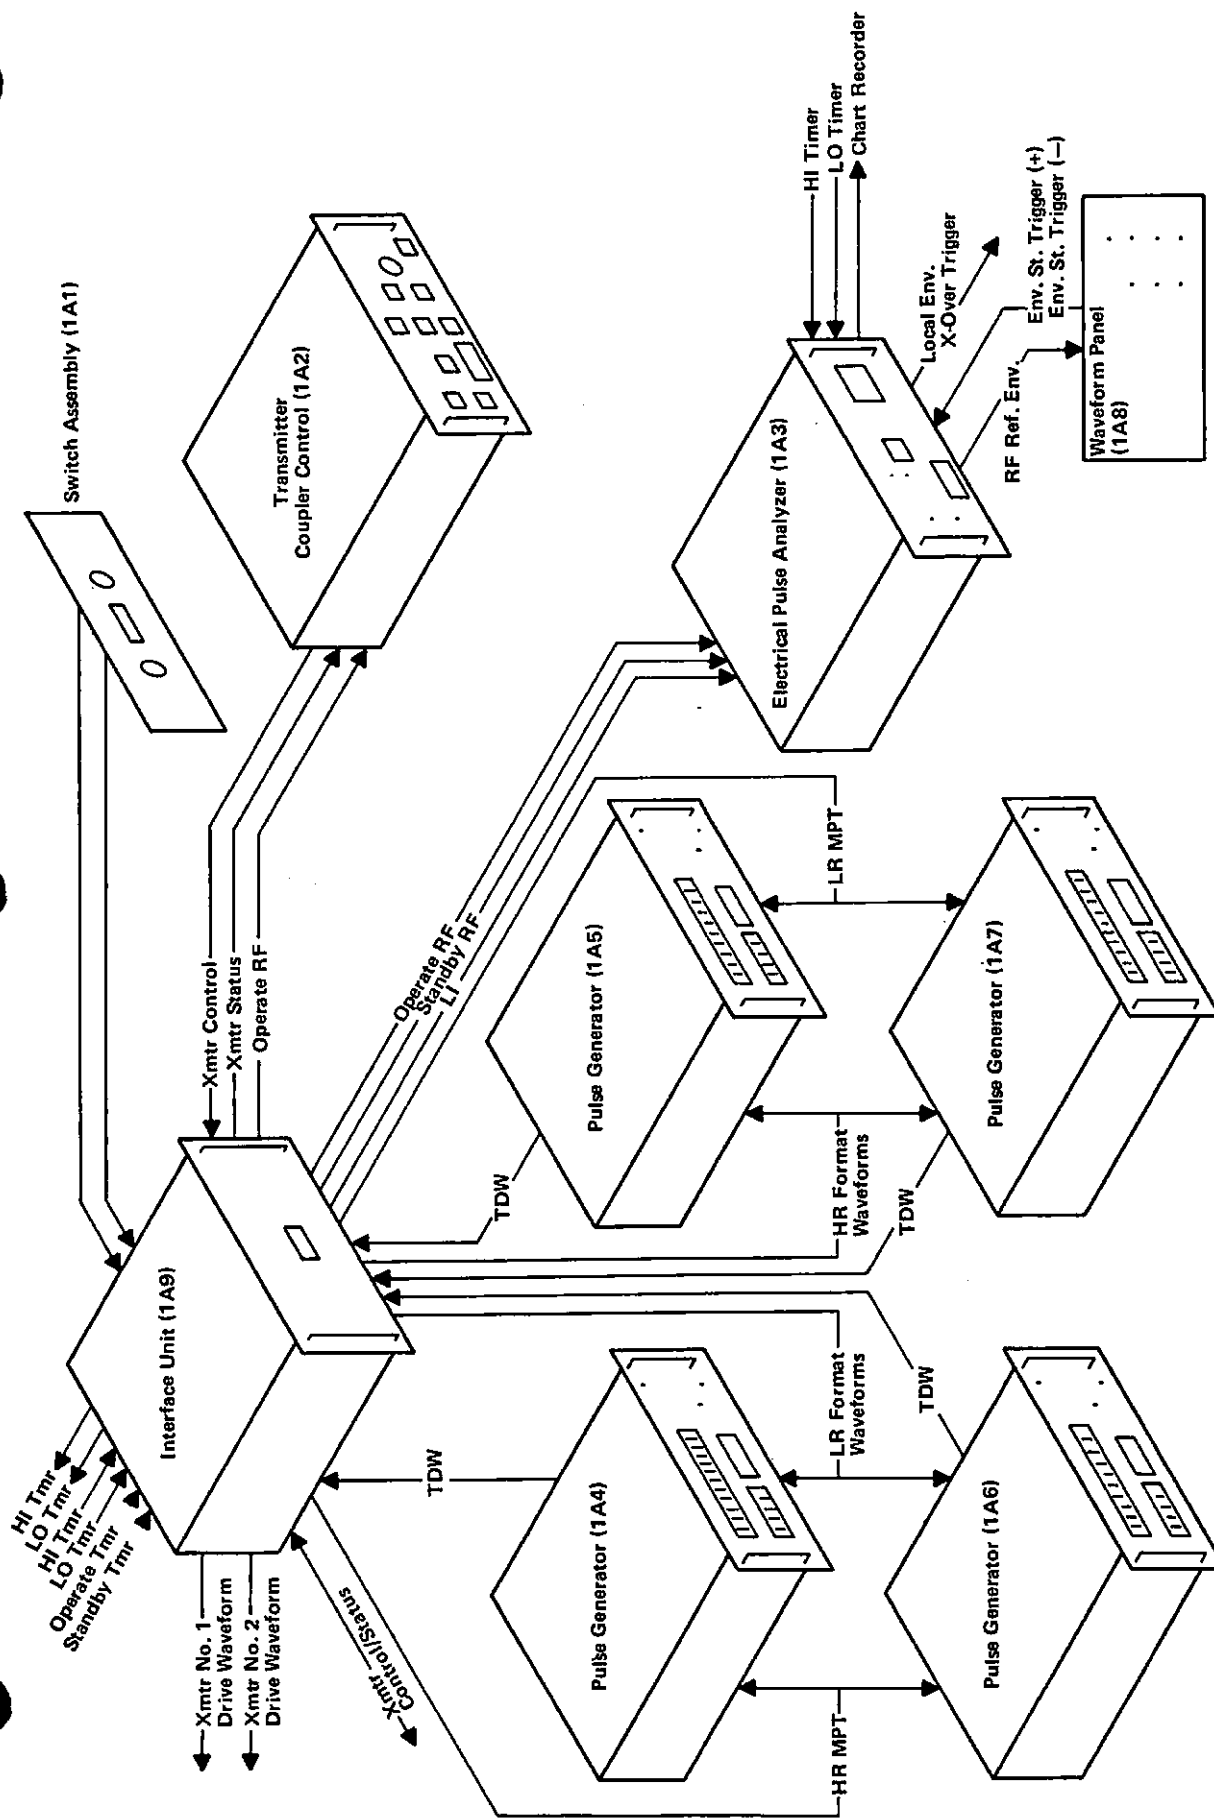

Figure 1.9. Interrelationship Of TCS Units
1.4 Reference Data. Table 1.1 lists the electrical power requirements of several units of the Transmitter Control Set. Tables 1.2 and 1.3 list the equipment supplied and the equipment required but not supplied, respectively. Figure 1.9 shows the relationships of all the units of the Transmitter Control Set. The PGEN at LORAN STATION CAPE RACE is unique (refer to Chapter 4 for more detailed information).